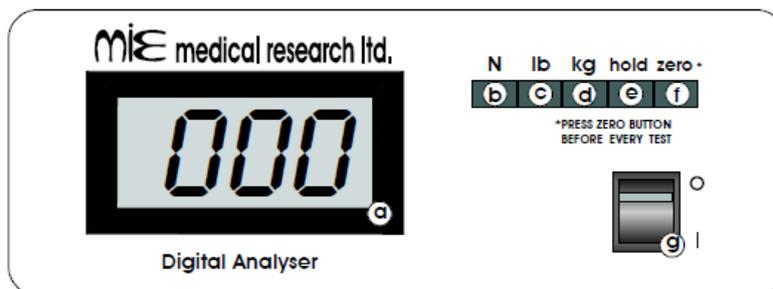

Figure 1: Digital Analyser (Front)
2. Referring to the information and figure below (figure 1), set up the equipment in the following way, when both the instrument and the computer are **switched off**: